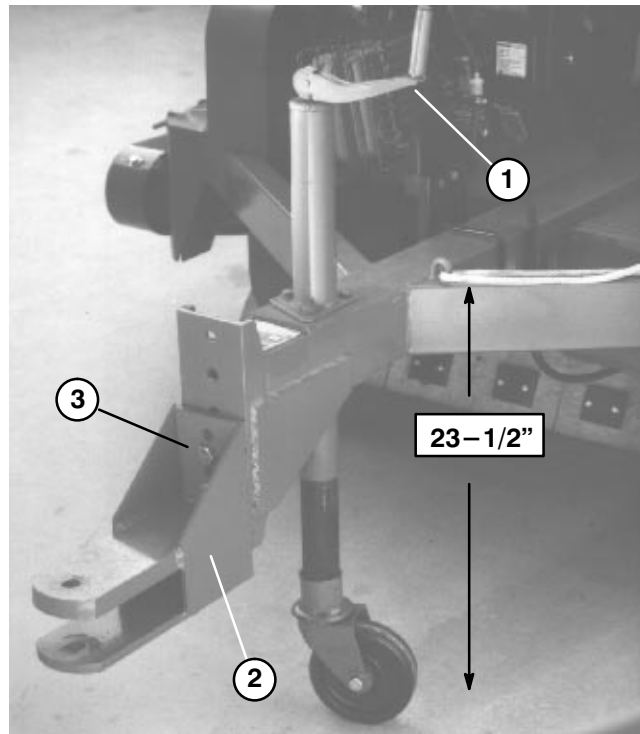

Figure 1
MOUNT SWEEPER TO PRIME MOVER (Fig. 1 & 2)
A. Remove capscrews and locknuts securing hitch tongue to frame (Fig. 1).
B. Raise or lower hitch tongue to position approximately level with prime mover hitch and secure with (2) capscrews and locknuts.